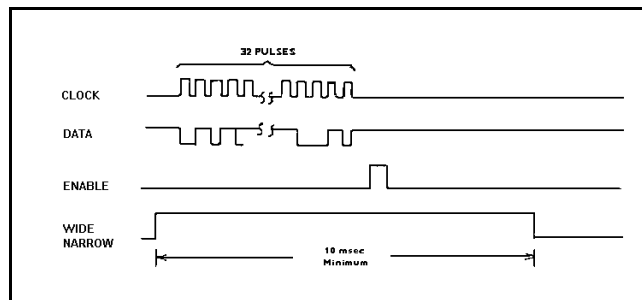

Figure 6 - Clock, Data, Enable, and Wide/Narrow Signals
- g. Verify that the CLOCK, DATA, ENABLE and WIDE/NARROW signals coming from the Control Board are at the proper level and the proper duration (refer to Figure 6).